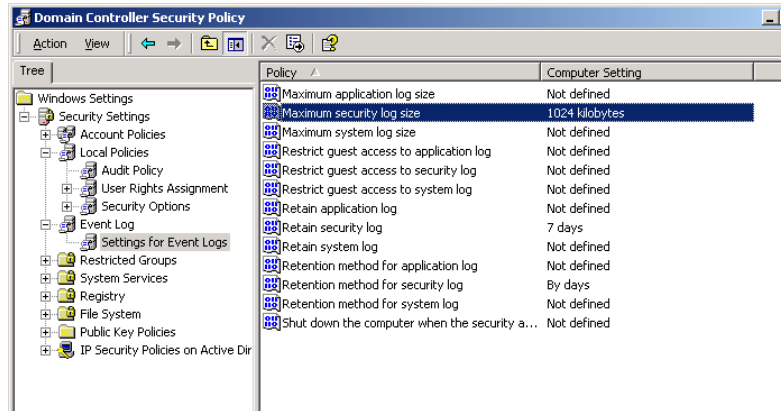

Figure 77. Settings for Event Log in Windows
- Further you can set the log size and other log declarations. Follow the path **Windows Settings > Security Settings > Event Log > Settings for Event Log** (see Figure 77).